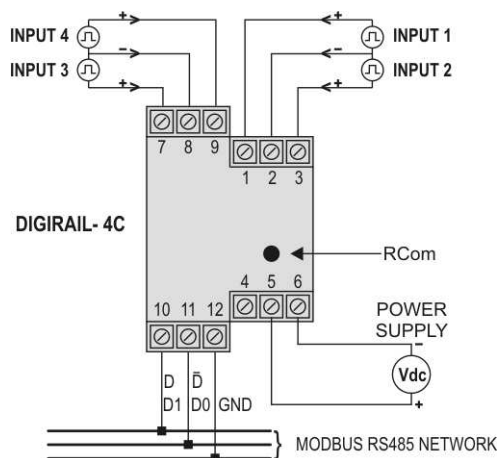

Figure 2 – Electrical Connections
**Figure 2** shows the necessary electrical connections. The terminals 1, 2, 3, 7, 8 and 9 are intended for the input connections, 5 and 6 for the module supply and 10, 11 and 12 for the digital communication. For obtaining a better electrical contact with the connectors, we recommend the use of pin terminals at the conductors' end. For direct wire connection, the minimum gage recommended is 0.14 mm2, not exceeding 4.00 mm2.